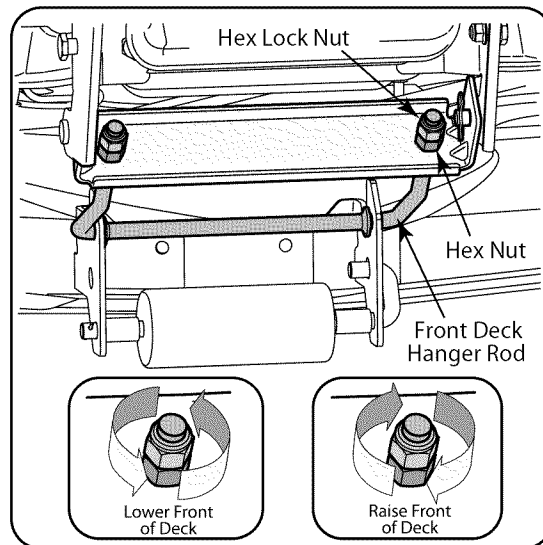

Figure 11
3. Working from the left side of the tractor, loosen, but do not remove, the hex cap screw on the left deck hanger bracket. See Figure 11.
4. To even the deck turn the adjustment gear, located immediately behind the hex cap screw, clockwise (rearward) to raise the left side of the deck. Turn the gear counter-clockwise (toward front) to lower the left side of the deck. See Figure 11.
3. Working at the front of the tractor, loosen the two hex lock nuts at the front of the deck hanger rod. Thread the lock nuts away from the hex nuts behind them. See Figure 11.
4. Using a wrench, turn the inner hex nuts clockwise to raise the front of the deck, or counterclockwise to lower the front of the deck. Adjust the hex nuts evenly so that the deck hanger rod is at the front of both slots in the hanger bracket on the front of the deck. See Figure 11.